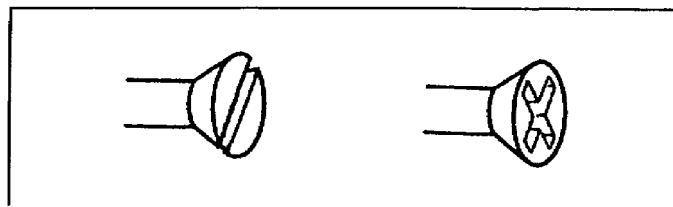

Figure 1-33. Slotted and Phillips head
a. Phillips Head. Screws are usually either slotted-head or Phillips head (Figure 1-33). Phillips head screws require a special screwdriver for driving them. Some advantages of Phillips head screws are that the screwdriver does not slip out easily and that the head is not as apt to break as that of a conventional type screw.